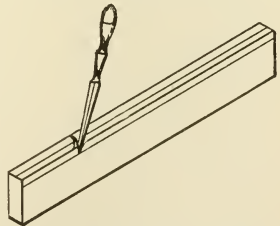

FIG. 126. — CUTTING RABBET WITH A CHISEL.
7. **Grooving the top.** — In cutting the groove or rabbet, workmen usually use a special form of plane called by various names according to the use it is intended for. But it is possible to cut the rabbet with nothing but the chisel and mallet. Chisel down nearly to the line, as shown in Fig. 126, and trim with a broad chisel down to the lines from both the edge and the surface. The groove extends $\frac{1}{2}$ " past the shoulder at each end. Glue the corner made by one side and one end, and fasten with $\frac{3}{4}$ " screws from the under side. Then glue the corner made by the other side and end, and fasten in the